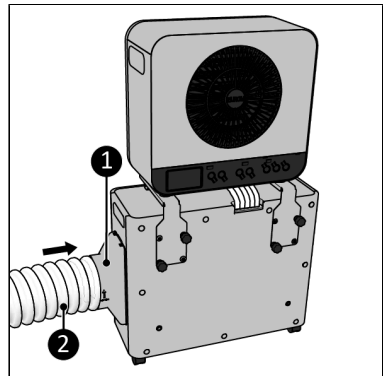

Figure 37.
9. Connect the adapter (Figure 37, pos. 1) to the side of the outdoor unit (Figure 37, pos. 1).
10. Stretch the heat exhaust hose (Figure 37, pos. 2) slightly at one end and screw it (anticlockwise) onto the adapter.
3. The adapter (Figure 37, pos. 1) and the heat exhaust hose (Figure 37, pos. 2) need to be connected to the side of the outdoor unit.